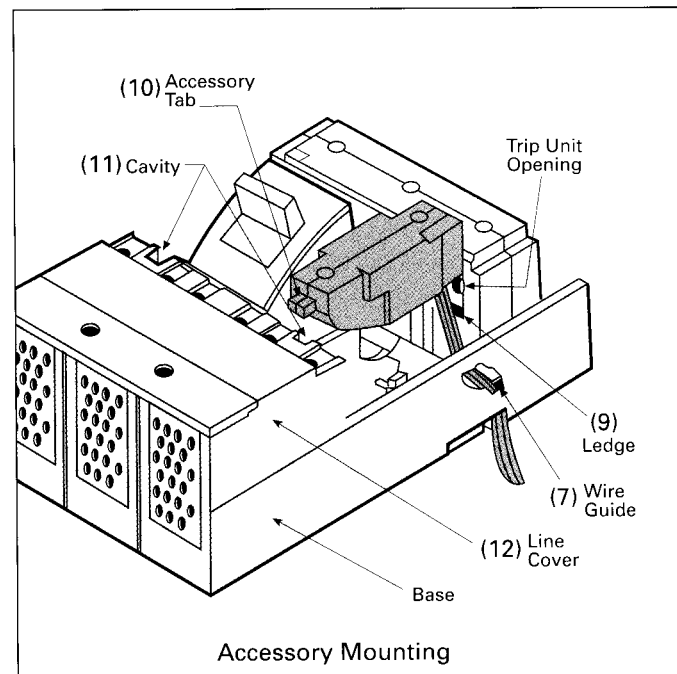
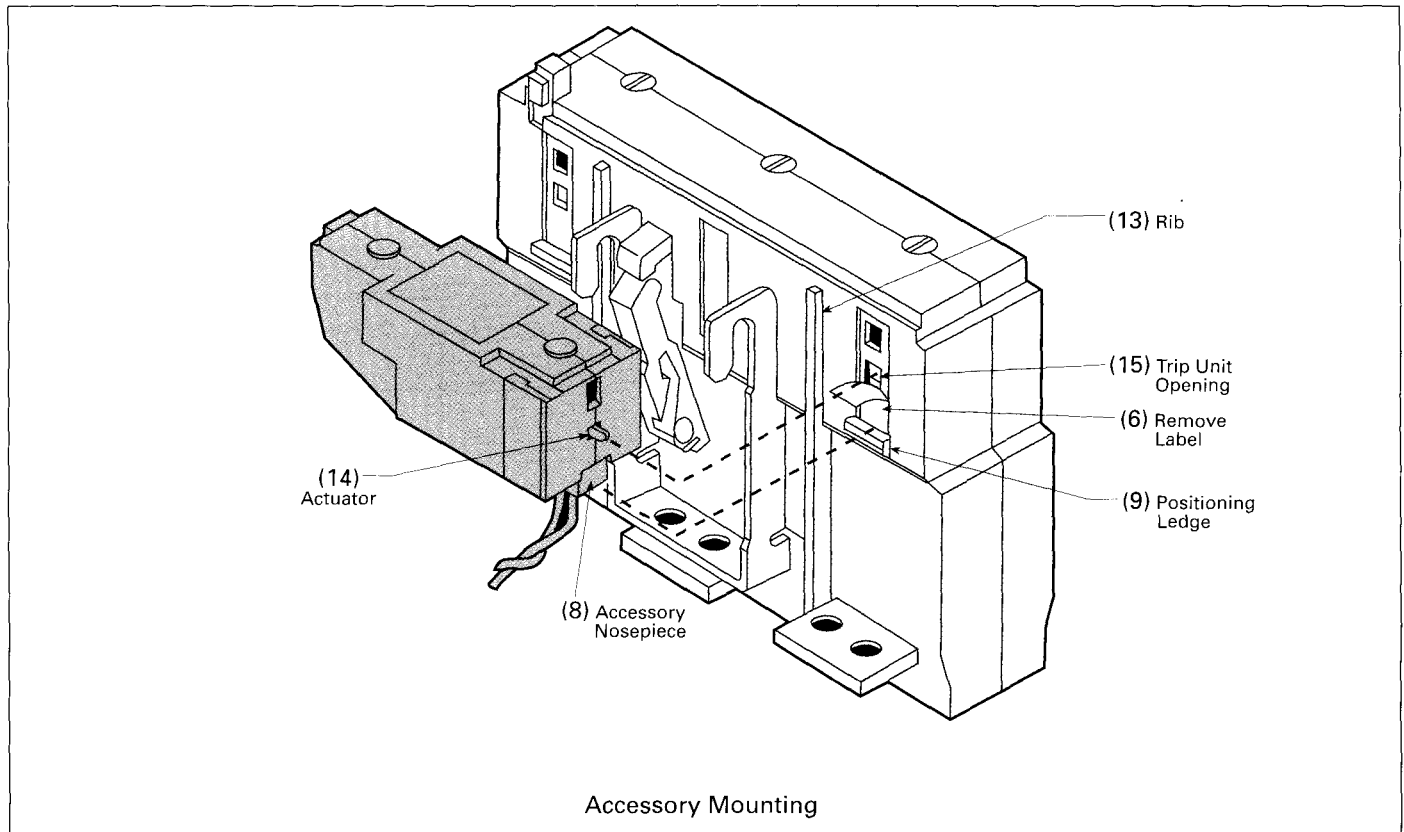

Figure 2
Figure 3
- A. Feed leads through opening at bottom of accessory case for right hand or left hand mounting in breaker. Leads should always exit accessory toward outer edge of breaker. Feed accessory leads down and through .670 x .300" elongated opening (7) (Figure 2) to bring leads out bottom of circuit breaker.
- B. Pull gently and evenly on accessory wire leads (2 to 9 wires) while lowering accessory onto base. Make sure all the slack is removed from leads inside breaker. Accessory is placed in circuit breaker on nosepiece (8) (Figure 3) on bottom side of accessory. Slide accessory down to rest on positioning ledge (9) (Figures 2 and 3) of trip unit.
When accessory is installed correctly, front tab of accessory (10) (Figure 2) will rest in cavity (11) of line cover (12). The inside edge of any accessory should be against the trip unit rib (13) (Figure 3) after installation.
NOTE: Do not attempt to "slide" Bell Alarm into position. Actuator (14) (Figure 3) must be inserted below top edge of center trip unit opening (15) (Figures 2 and 3) as front of accessory is lowered into cavity of line cover.
- D. Remove label (6) which covers openings in trip unit (Figure 3).